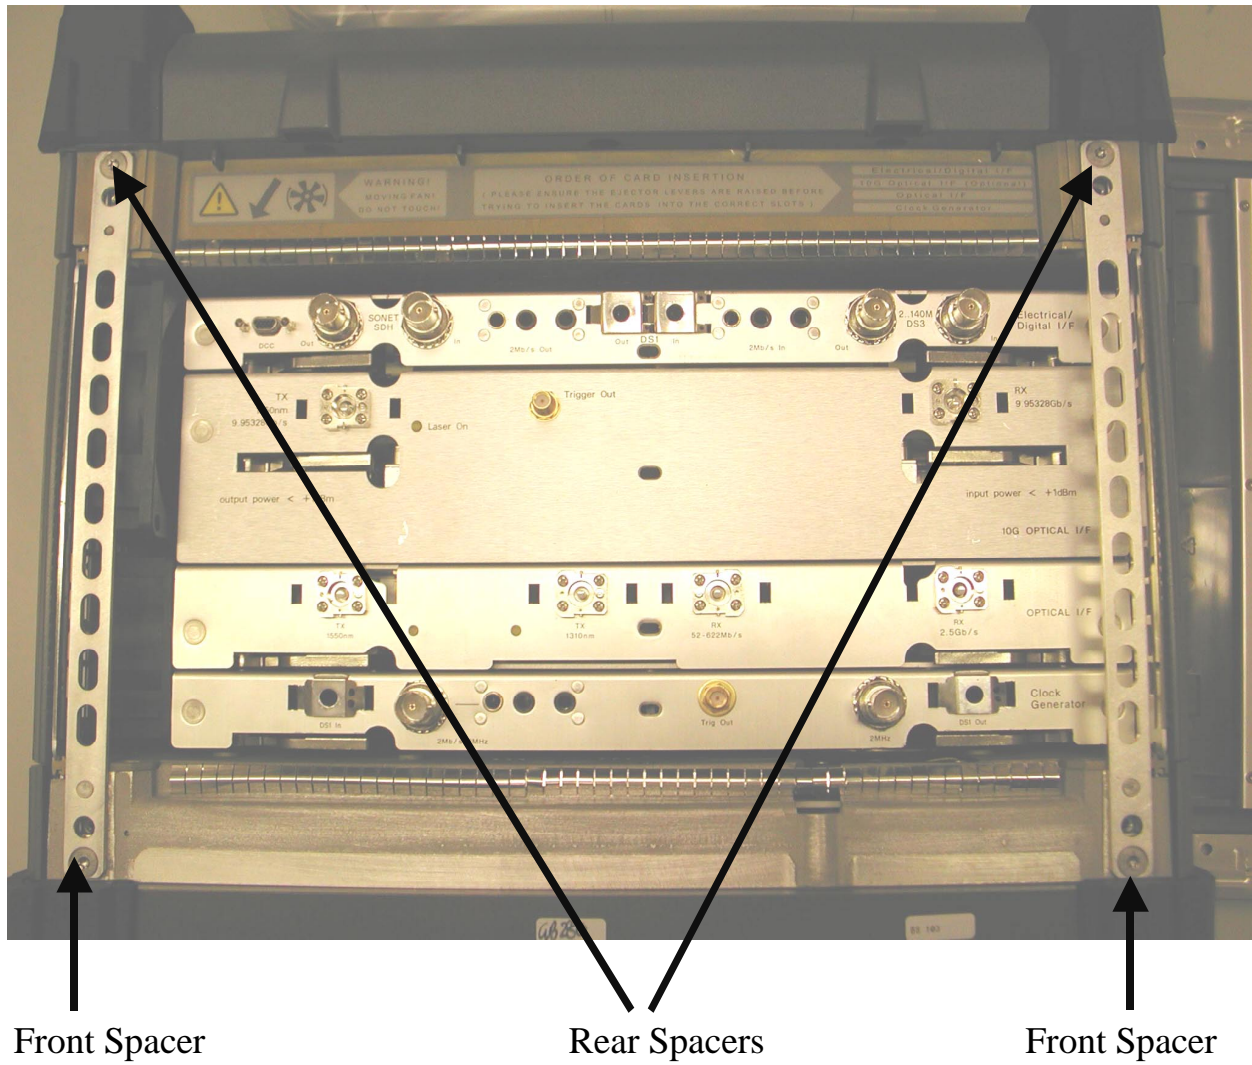

Figure 1 Location of J2126A Tie Bars and Spacers
3. Locate the tie bars at either side of the instrument. Check the front and back of each tie bar to see if spacers have been fitted between the tie bars and the castings. See Figure 1.